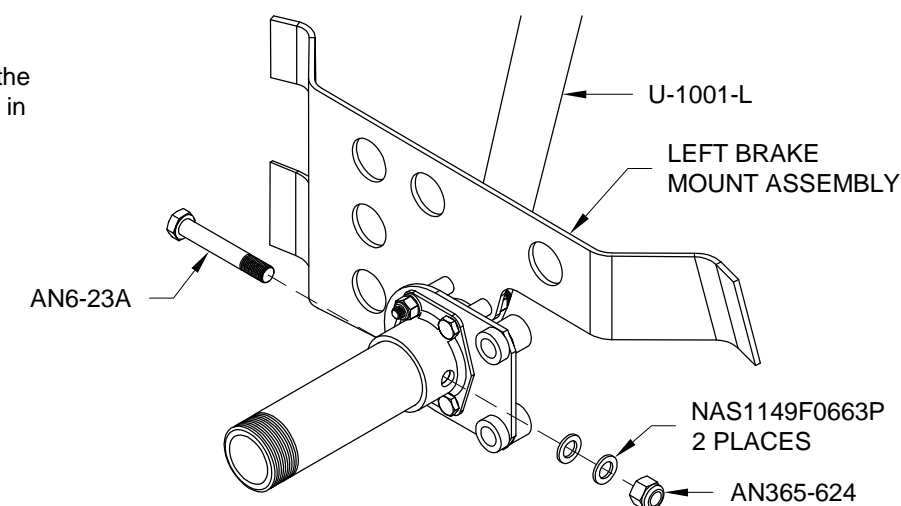

FIGURE 5: INSTALLING THE LEFT BRAKE MOUNT ASSEMBLY
Step 7: Slide the Left Brake Mount Assembly on the axle of the U-1001-L Main Gear Leg and secure it in place using the hardware shown in Figure 5.